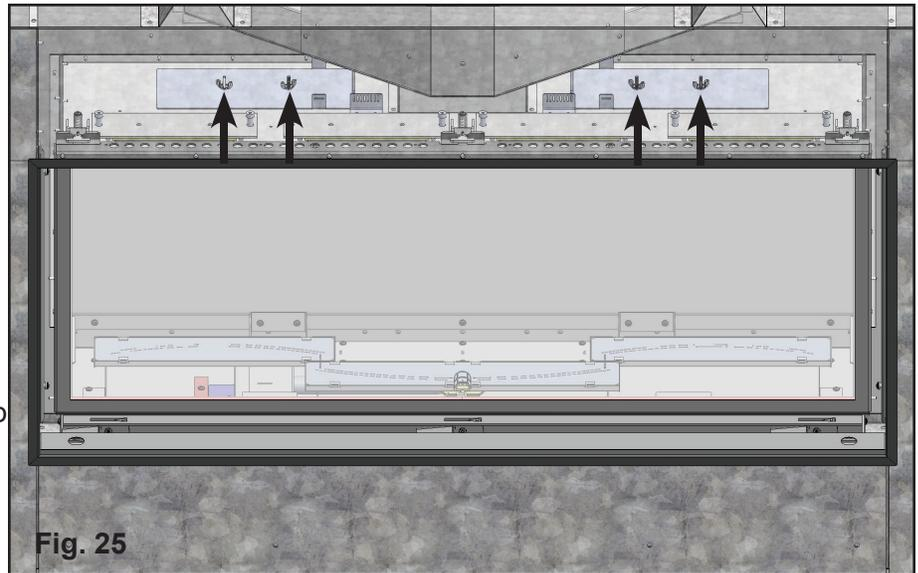

Fig. 25
2. There are two restrictor plates on top of the firebox, one on either side of the exhaust stack. Loosen the four wing nuts just enough so that the plates can slide. See transparent appliance picture in **Fig. 25**.